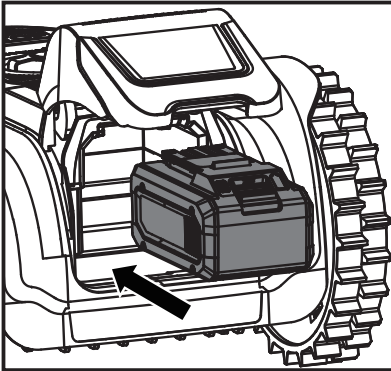

Fig. 1
2. Align the support rails located within the battery compartment with the guides in the battery pack, and then insert the battery pack into the compartment (Fig. 1).